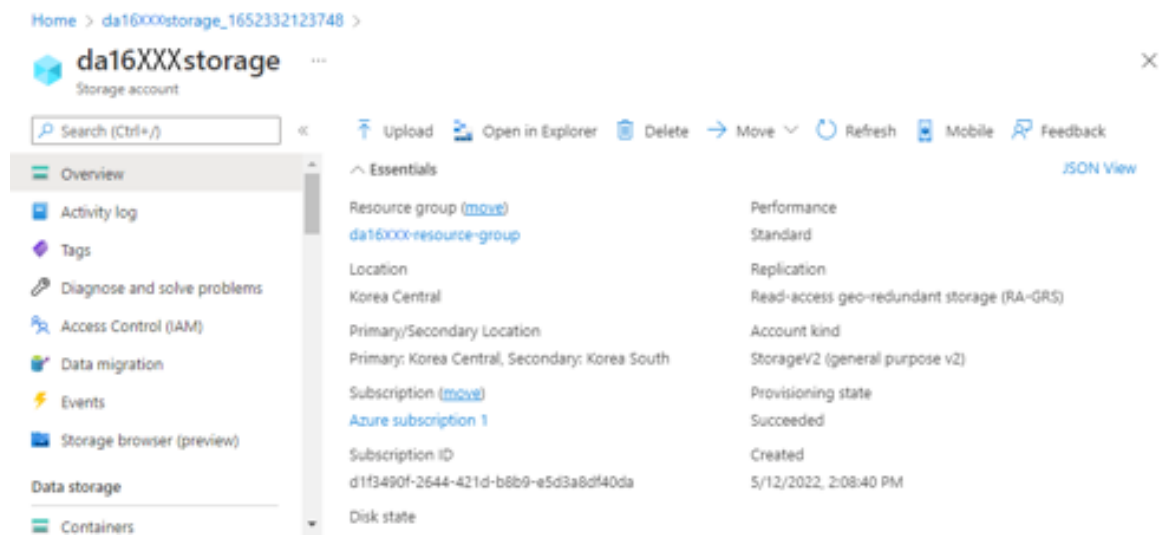

Figure 66: Created Storage Account
- The created storage account is as shown in Figure 66.